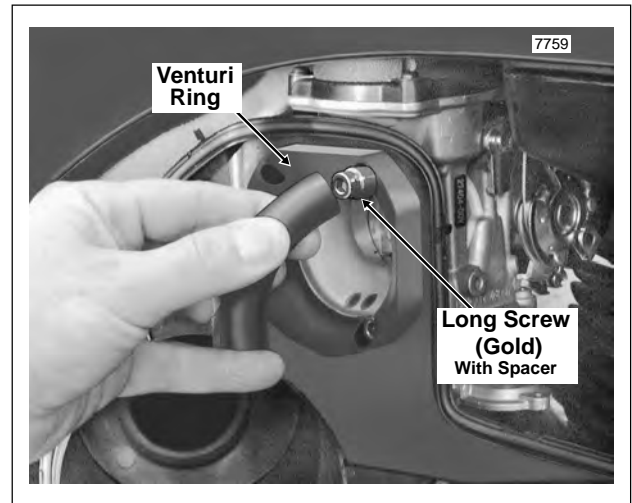

Figure 4-12. Fix Hose End Onto Allen Head Screw
8. Moving to left side of vehicle, remove two flange bolts to release side of air box from triangular shaped bracket. Do not remove bottom bolt to crankcase. See Figure 4-12.